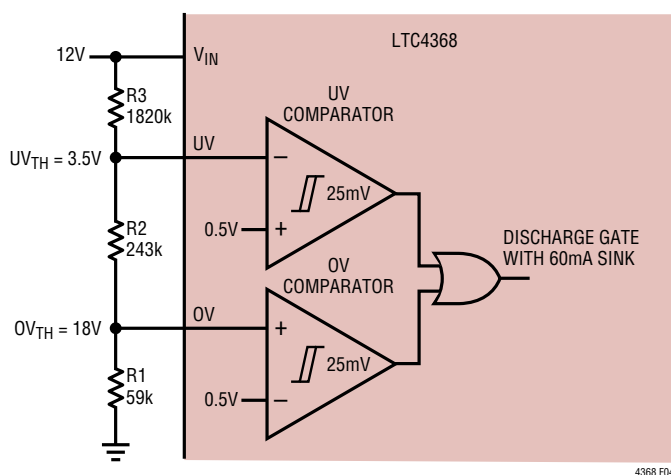

Figure 4. UV, OV Comparators Monitor 12V Supply
The LTC4368 provides two accurate comparators to monitor for overvoltage (OV) and undervoltage (UV) conditions at  $V_{IN}$ . If the input supply rises above the user adjustable OV threshold, the gates of the external MOSFETs are quickly turned off, thus disconnecting the load from the input. Similarly, if the input supply falls below the user adjustable UV threshold, the gates of the external MOSFETs are quickly turned off. Figure 4 shows a UV/OV application for an input supply of 12V.
The external resistive divider allows the user to select an input supply range that is compatible with the load at  $V_{OUT}$ . Furthermore, the UV and OV inputs have very low leakage currents (typically  $< 1nA$  at  $100^\circ C$ ), allowing for large values in the external resistive divider. In the application of Figure 4, the load is connected to the supply only if  $V_{IN}$  lies between 3.5V and 18V. In the event that  $V_{IN}$  goes above 18V or below 3.5V, the gate of the external N-channel MOSFET is immediately discharged with a 60mA current sink, thus isolating the load from the supply.
The following 3-step procedure helps select the resistor values for the resistive divider of Figure 4. This procedure minimizes UV and OV offset errors caused by leakage currents at the respective pins.
The example of Figure 4 uses standard 1% resistor values. The following parameters were selected: